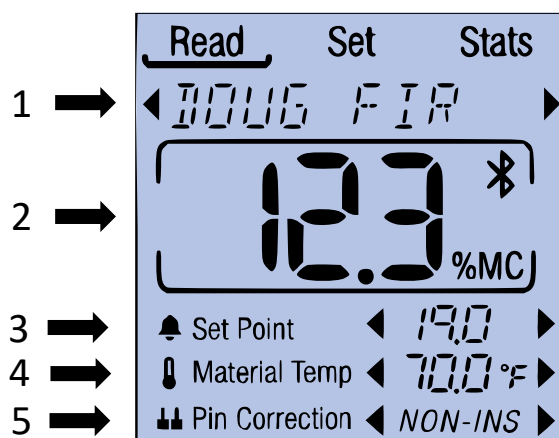

Figure 2: Read screen components
Info: The live reading area displays the corrected moisture value of the material. The reading is corrected using the Material Type (1), Material Temperature (4), and Pin Correction (5) (see Figure 2 above).